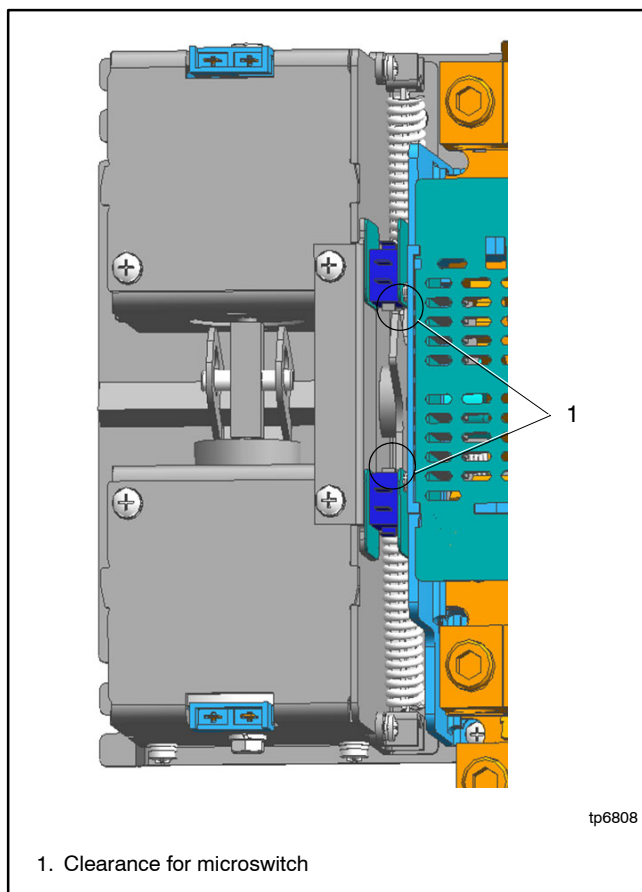

Figure 7-40 Microswitch Clearance
5. Make sure the degree of the clearance for both microswitches is the same. See Figure 7-40. For details, refer to step 3 in **Microswitch Assembly**.